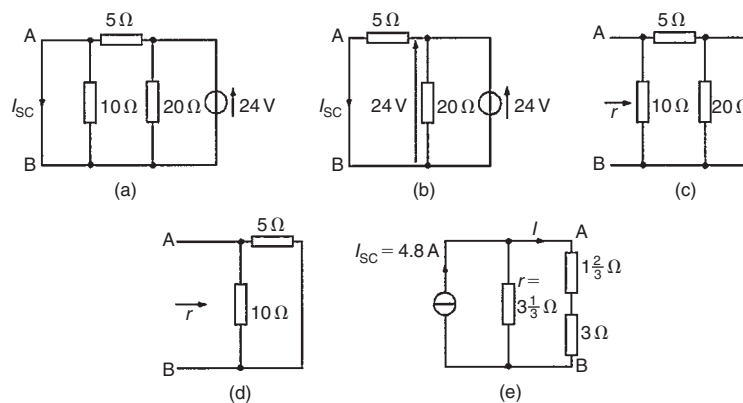

Figure 13.61
- (i) The branch containing the $3\ \Omega$ resistance is short-circuited as shown in Fig. 13.61(a)
- (ii) From the equivalent circuit shown in Fig. 13.61(b),
- (iii) If the 24 V source of e.m.f. is removed the resistance 'looking-in' at a break made between A and B is obtained from Fig. 13.61(c) and its equivalent circuit shown in Fig. 13.61(d) and is given by:
- (iv) From the Norton equivalent network shown in Fig. 13.61(e) the current in the 3 Ω resistance is given by: